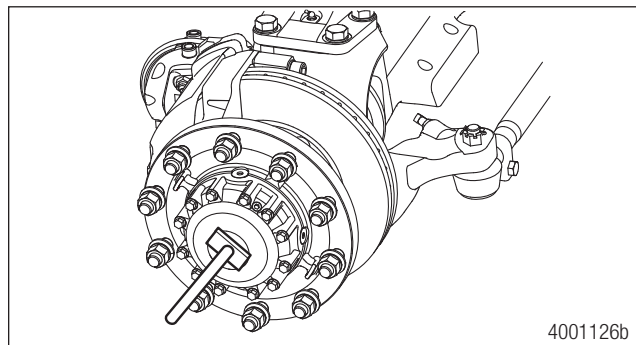

Figure 14.2
3. Attach the axle shaft tool (part number 3256-B-1016) to the outer portion of the axle shaft. See Axle Shaft Removal Tool (3256-B-1016) on page 74 for tool information. Figure 14.2.